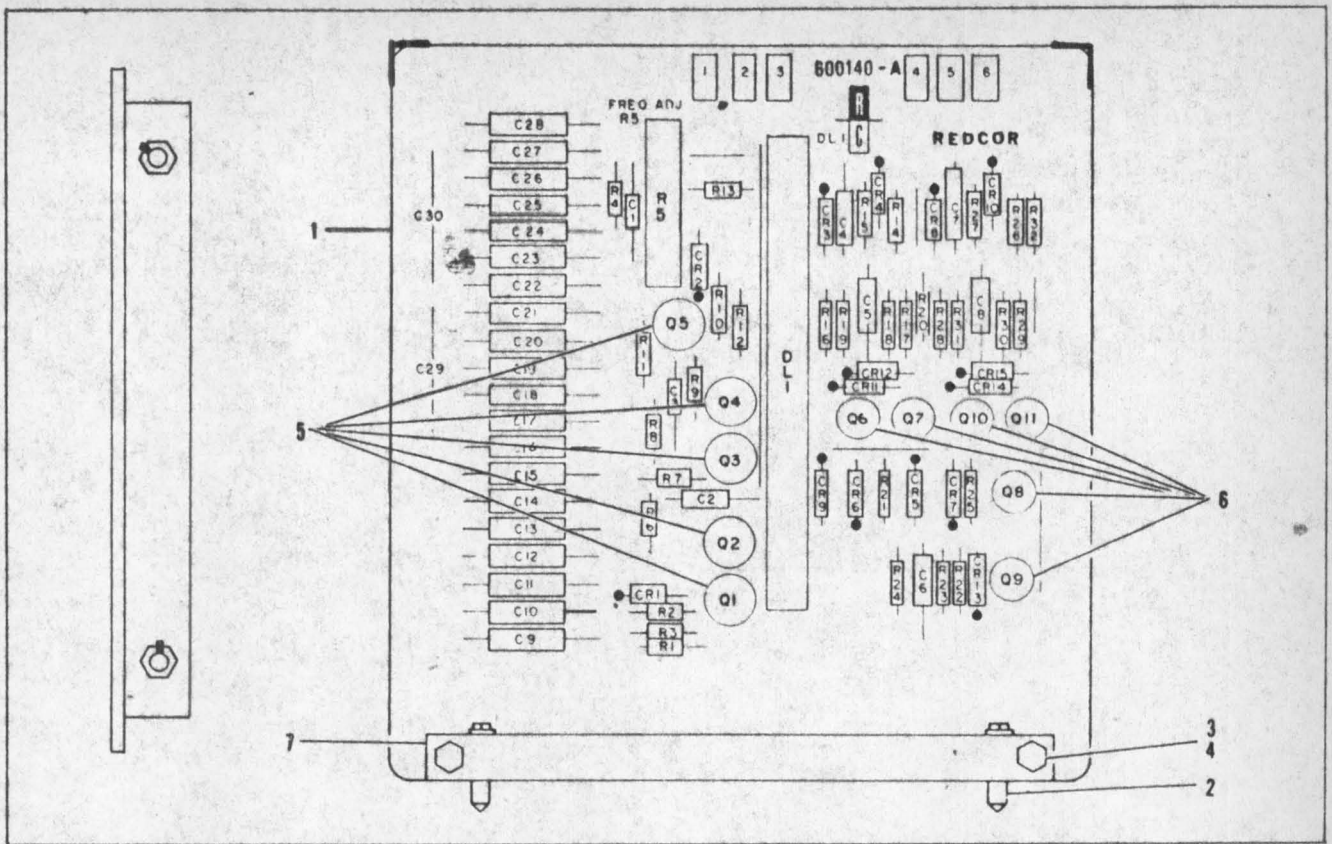

Figure 4. Clock Oscillator Model 600140, Parts Identification
8. Replacement Parts - Replacement parts for the clock oscillator are listed in the following parts list. For location and identification of parts see Figure 4.